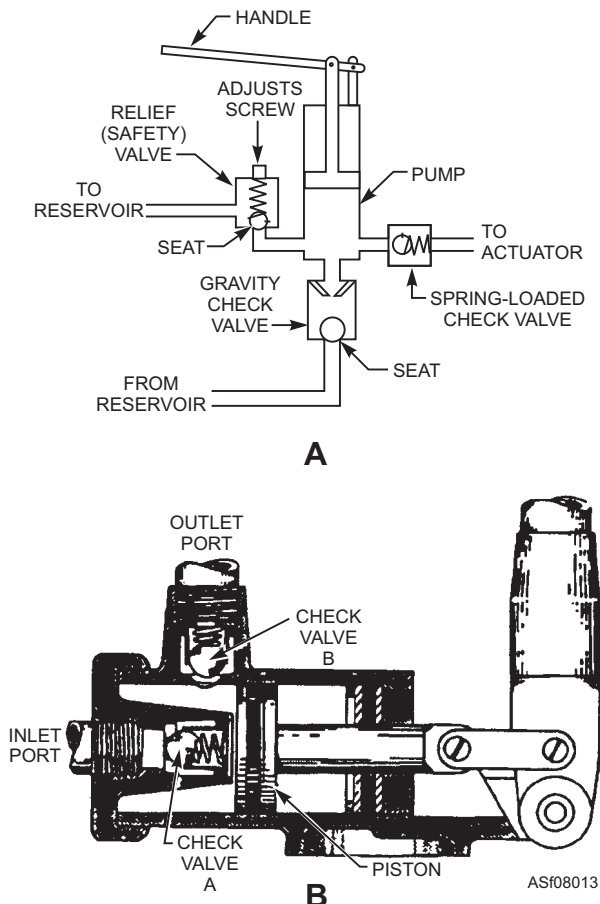

Figure 8-13.—Single-action hydraulic hand pump.
Single-Action Hand Pumps.—Two examples of single-action hand pumps are shown in figure 8-13. These pumps operate very much like piston (1) in figure 8-1. However, some means must be provided to trap fluid in the system and allow a new supply of fluid to enter the pump chamber during the return stroke. This is normally accomplished through the use of check valves (fig. 8-13). As noted earlier, pumps of this type are used in hydraulic jacks and hydraulically operated workstands.